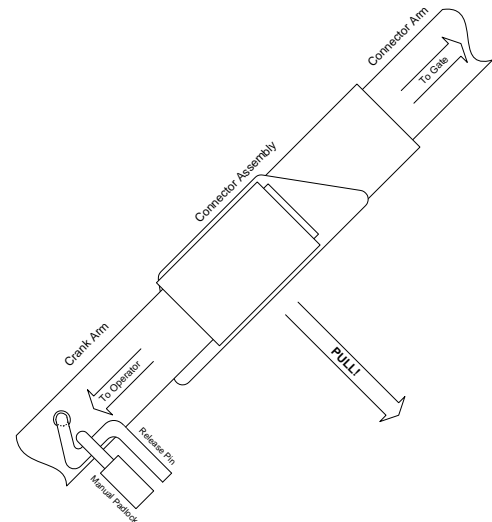
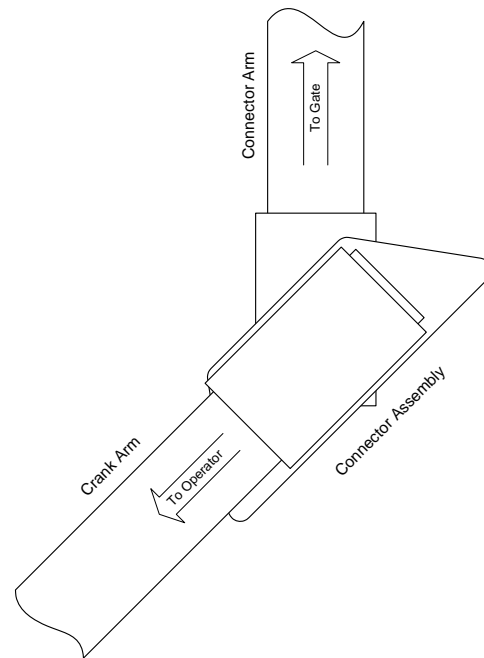

Figure 25
Figure 26
1. Pull the gate arm (figure 25) that is attached to the operator shaft away from the gate so that the knuckle joint is slightly "broken" (figure 26).
- Be sure that primary (AC) and backup (DC) power is removed or shut-off prior to placing the gate operator in manual operation.
- Unlock and remove the padlock on the operator crank arm (figure 25) and then pull the release pin.